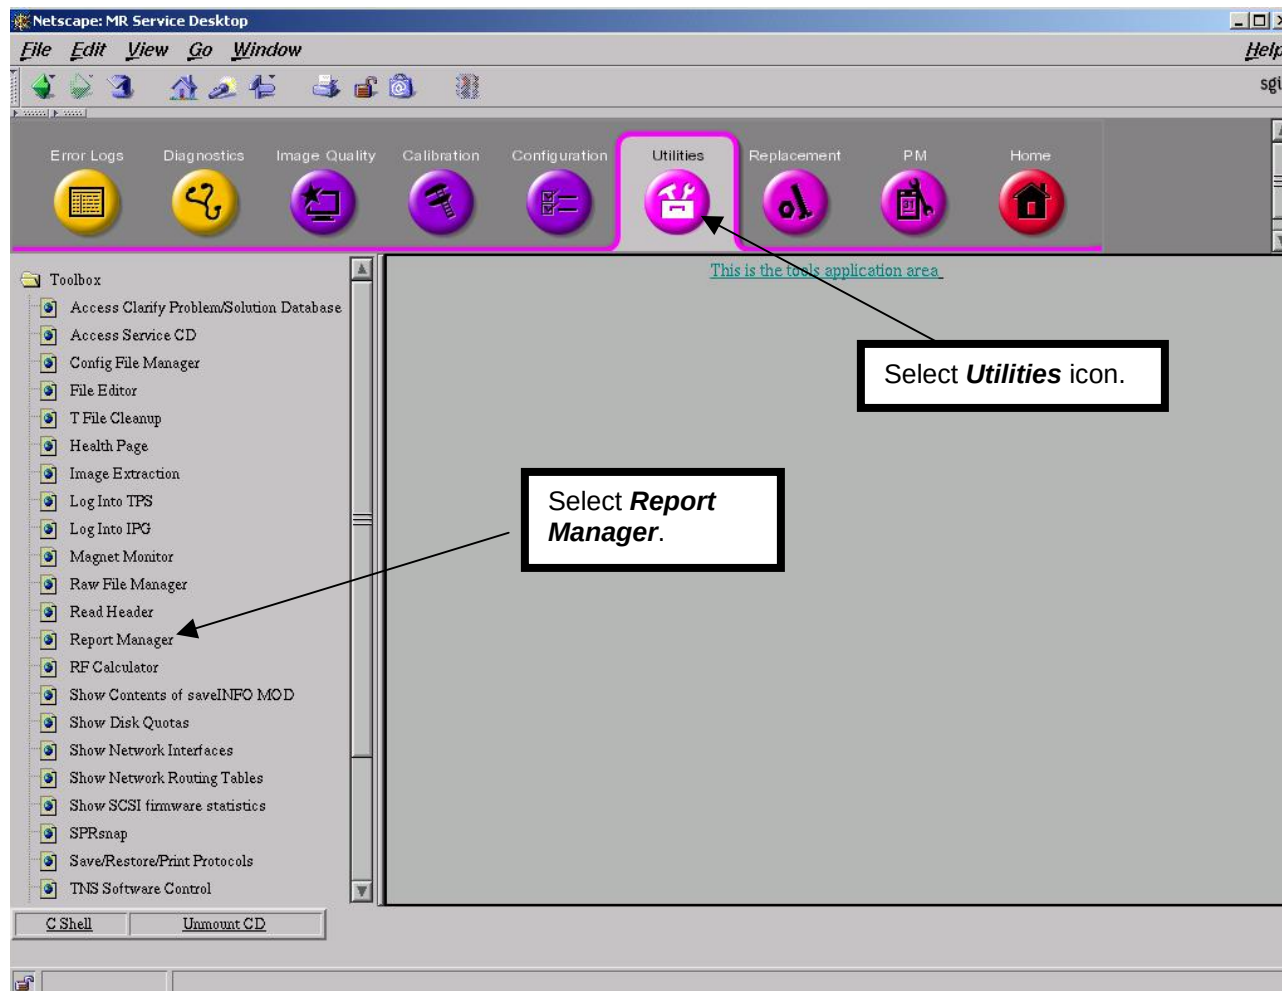

Figure 4
8. To view test results, the Report Manager must be accessed. Click the Utilities icon on the Common Service Desktop, and then click on "Report Manager" in the left column. See Figure 4.